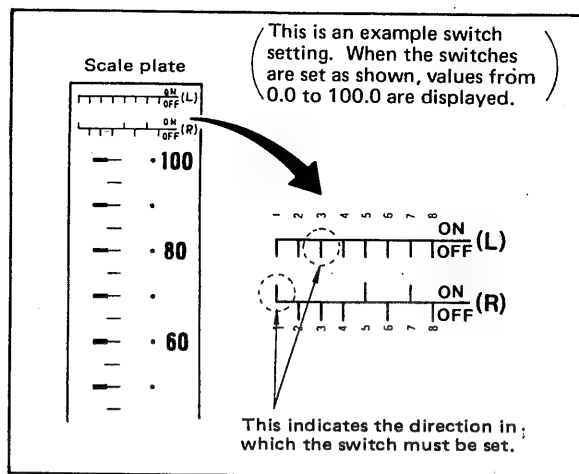

Figure 6-2-7. DIP Switch Setting Direction Marks Printed on Scale Plate.
- (3) The DIP switch setting direction marks are printed on the scale plate. (See Figure 6-2-7.)
- (4) Set the DIP switches according to the indicated setting positions so the digital display conforms to the scale graduations on the scale plate.